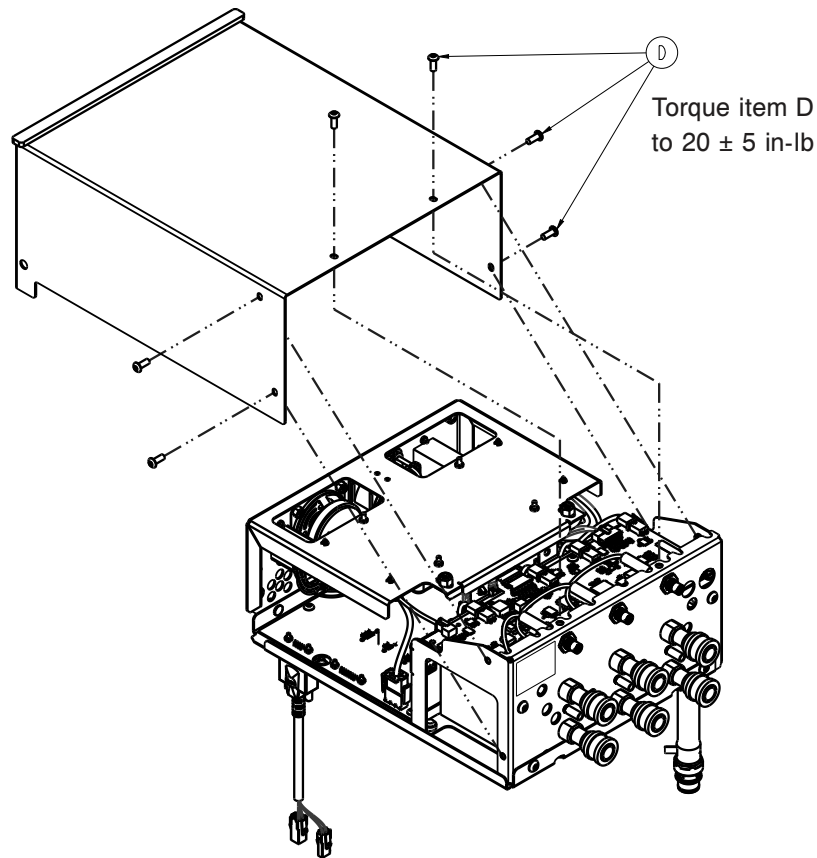

Figure 36 – Control box cover
5. Using a T25 Torx driver, remove the six screws (D) that from the control box cover (Figure 36). Save the screws.